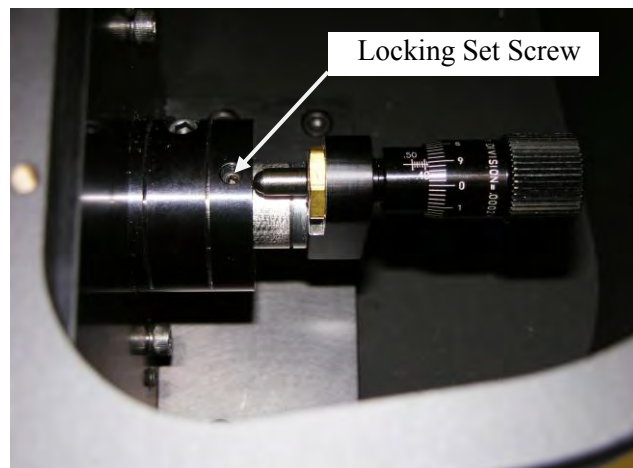

Figure 2-11. Micrometer Locking Set Screw
4. Using a 5/64" hex wrench, loosen the locking set screw shown in Figure 2-11.